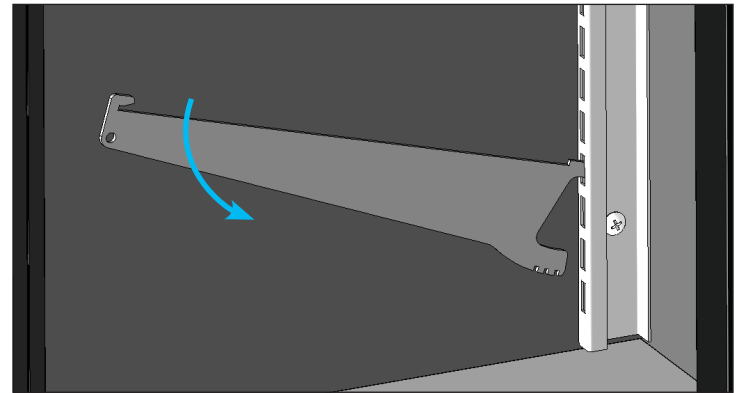

Fig. 3. Determine the appropriate adjustment slot.
2. Slide the angle adjustment tab into the shelf standard. Hook the appropriate notch into the shelf standard to support the shelf at the desired angle. See figs. 3 and 4.